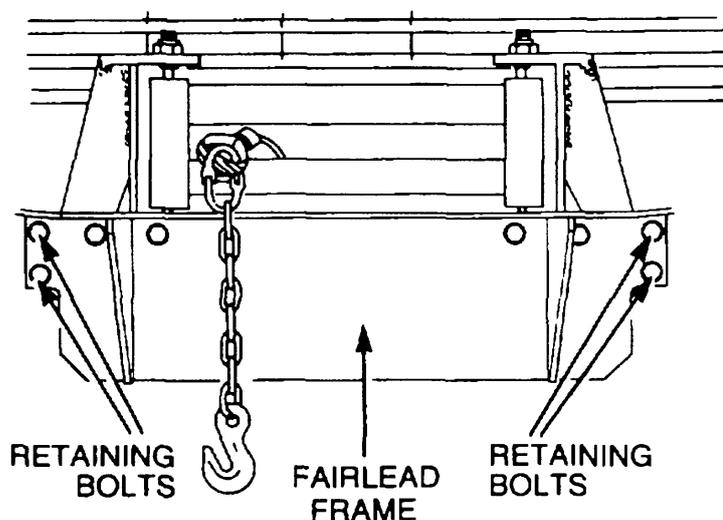

Figure 112 Winch and Fairlead Frame Removal
- d. Using a suitable jack, support the weight of the winch and remove the bolts securing the fairlead frame to the chassis (Figure 112).
- e.** Install the retaining bolts (Figure 112) and torque them to 77 N.m (57 lbf.ft).